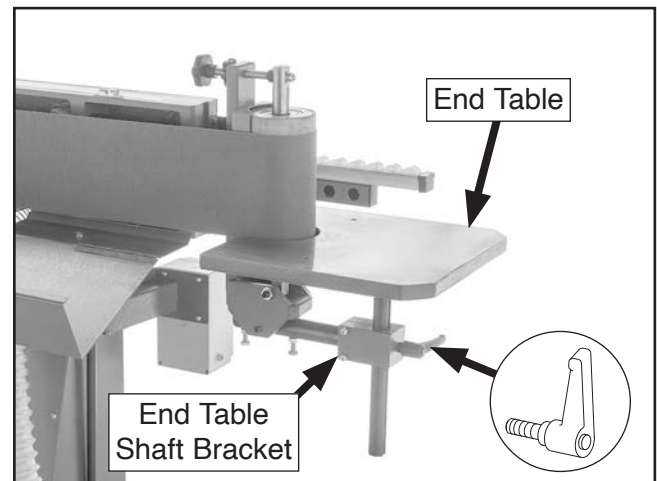

Figure 23. End table installed.
10. Insert end table shaft in bracket shown in **Figure 23**, lower table until table surface is just above bottom edge of sanding belt, then secure table with M8-1.25 x 20 lock handle.